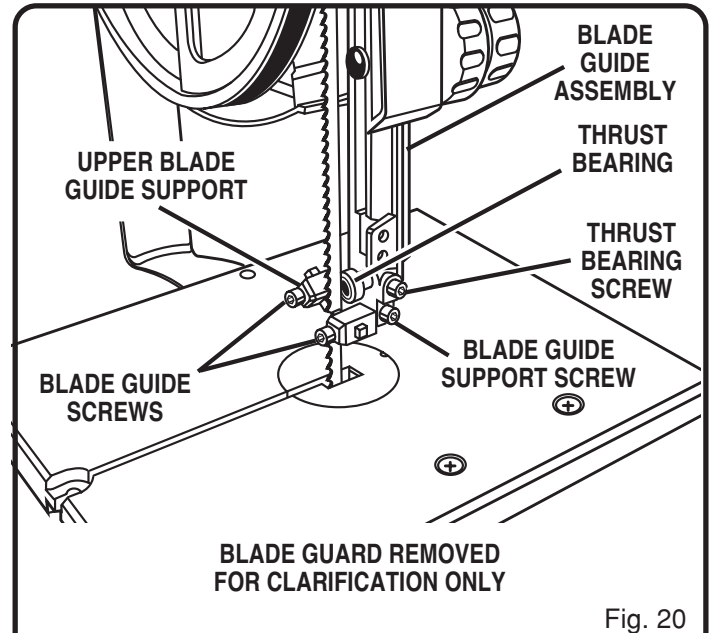

Fig. 20
See Figures 20 - 22.
**NOTE:** The thrust bearing screw is the upper cap screw located on the right side of the blade guide assembly. It is the lower cap screw on the right side of the saw housing below the saw table for the lower bearing. See Figures 20 and 21.